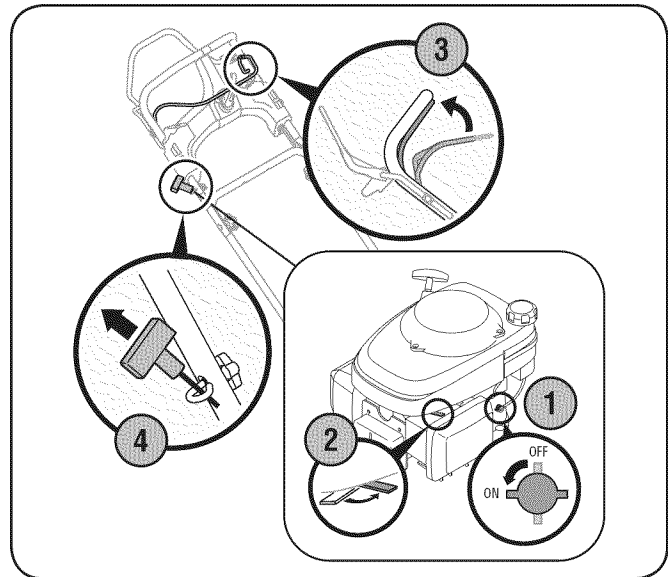

Figure 5-1
1. If equipped, place the fuel valve lever found on the left side of the engine into the ON (OPEN) position. See Fig. 5-1.
4. Holding these two handles together firmly, grasp recoil starter handle and pull rope out with a rapid, continuous, full arm stroke. See Fig. 5-1. Keeping a firm grip on the starter handle let the rope rewind slowly. Repeat until engine cranks. Let the rope rewind each time slowly.